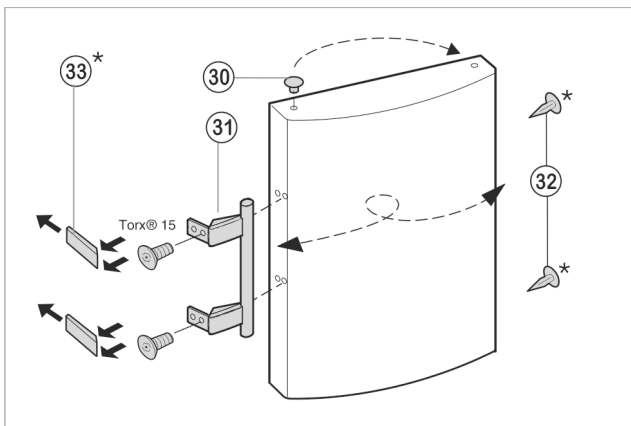

Fig. 8
- ▶ Lift the stopper *Fig. 8 (30)* out of the door bearing bush and transfer it.
- ▶ Detach door handle *Fig. 8 (31)*, stoppers *Fig. 8 (32)* and pressure plates *Fig. 8 (33)* plates and transfer to the opposite side